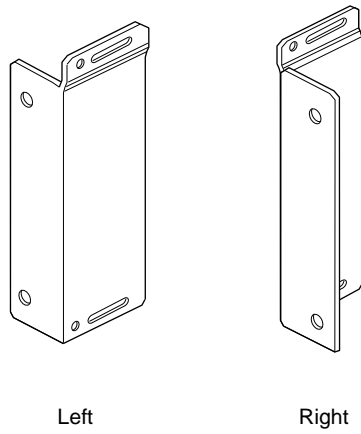

Figure 3-2 Origin200 Rackmounting Ears
- There are two ears, one for the left side and one for the right side. See Figure 3-2.